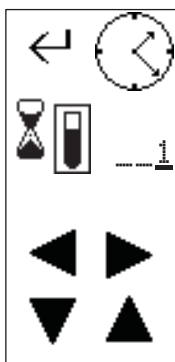

Figure 3-11 Time Intervals display
1. Touch the Time Intervals icon to open the settings display (Figure 3-11).